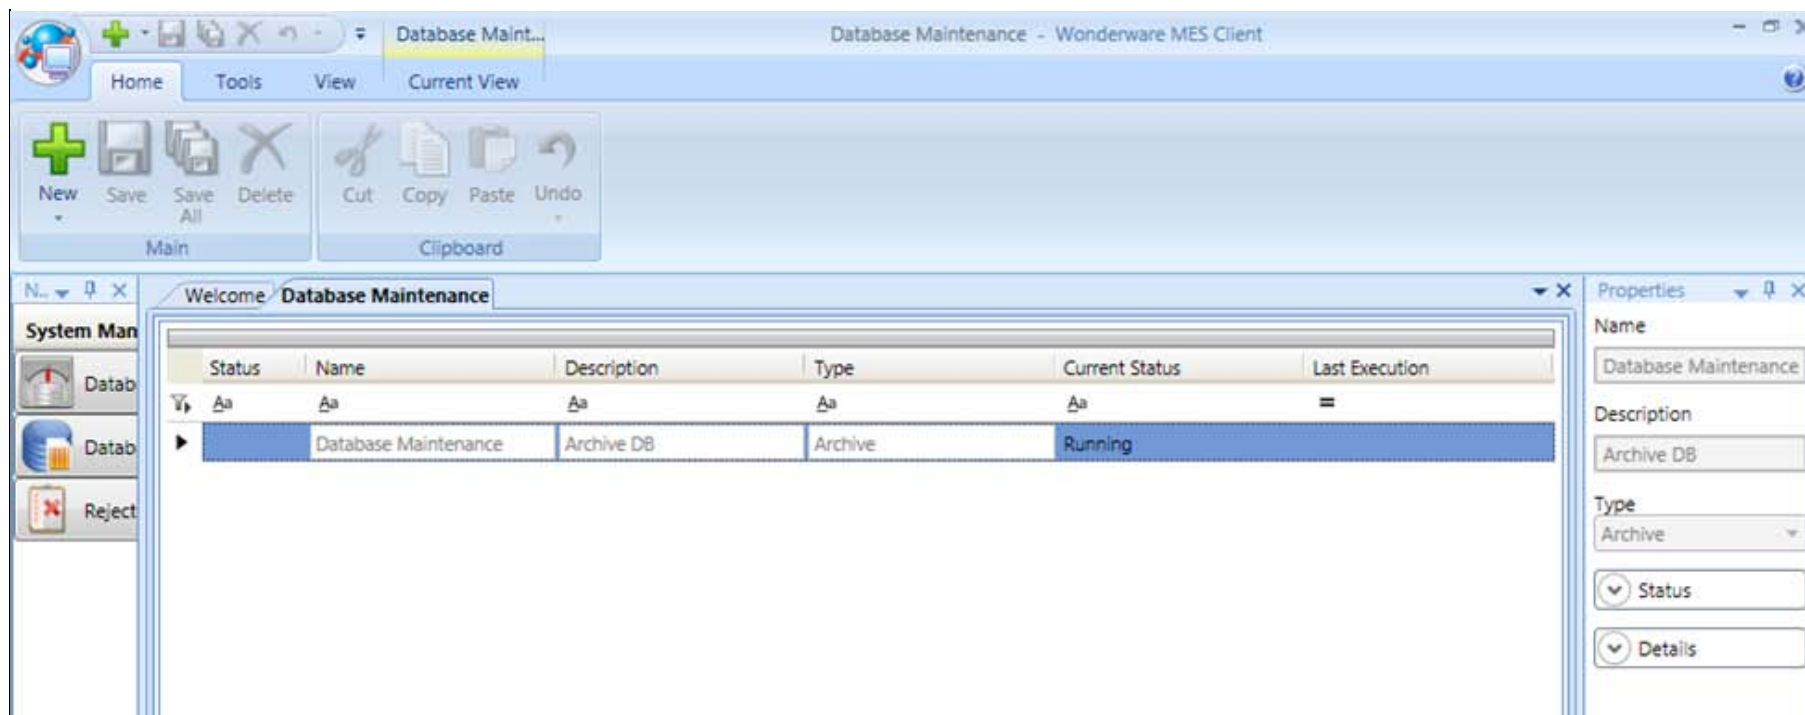

FIGURE 7: MANUALLY RUNNING THE JOB
6. Click **Run** to start the Job manually. You will see the Job status is **Running** in the **Current Status** column (Figure 7 below).